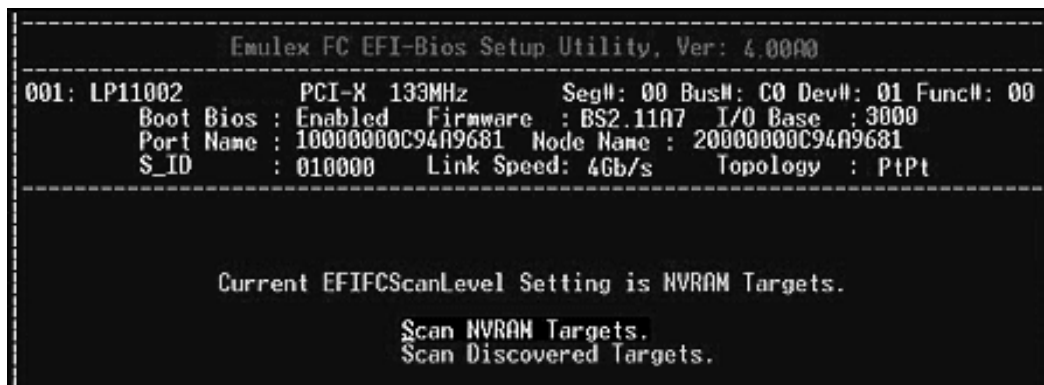

Figure 38: Existing EFiFcScanLevel Variable screen
- If the EFiFcScanLevel variable already exists, the screen in Figure 38 shows the current setting and allows you to select a new setting.